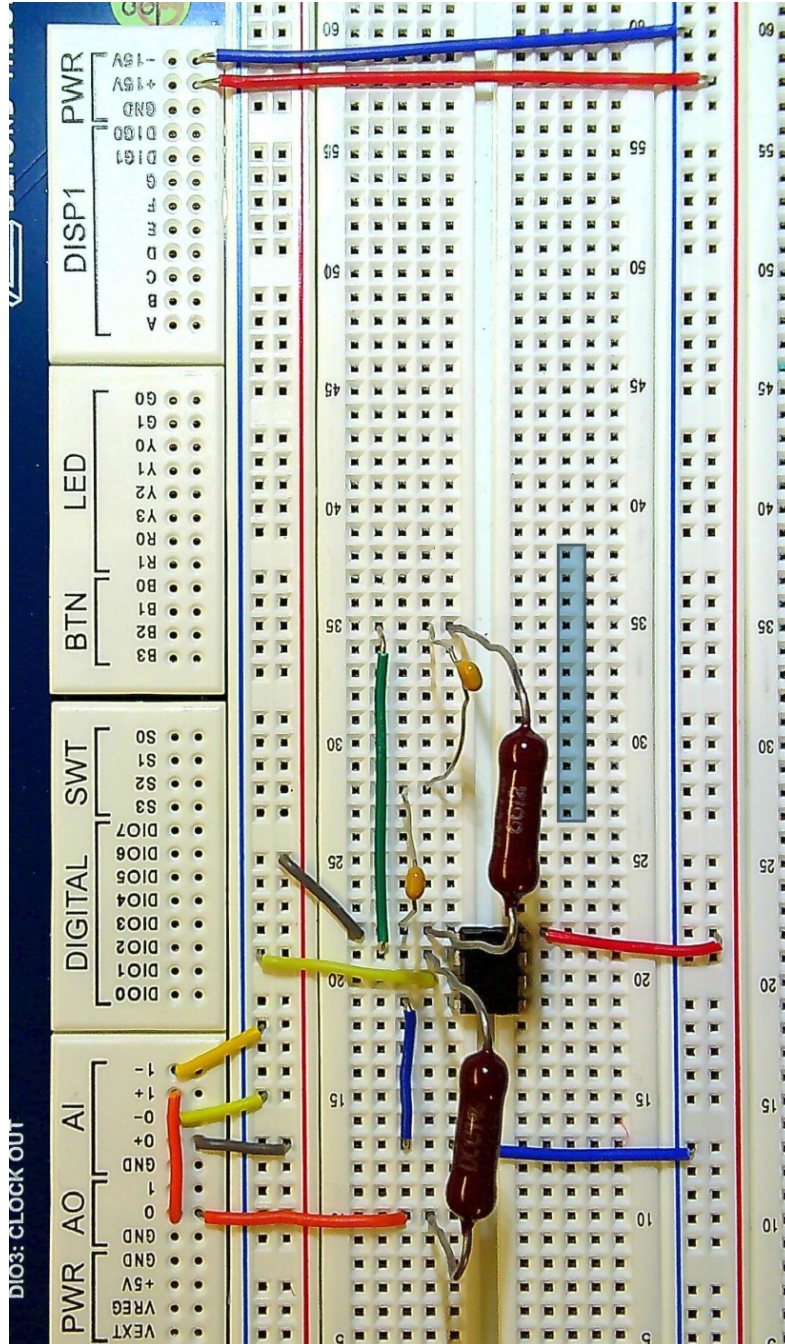

Figure 2: Active inverting low-pass circuit.
- Reference figure 2 to create circuit.